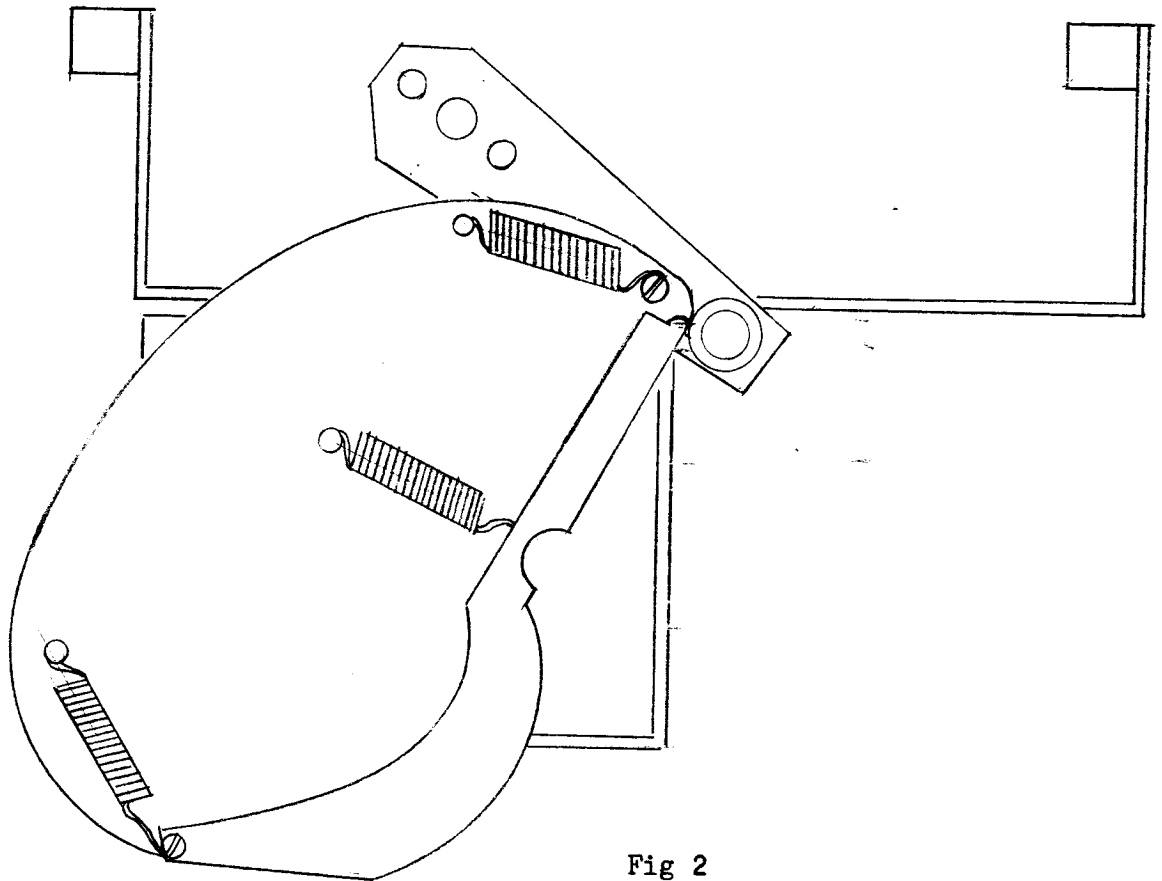

Fig 2
6. Without disturbing the positioning of the main condenser setting, as set in 5, rotate the cam untill the cam follower bearing wheel is resting on the cam edge as shown in Fig 2.